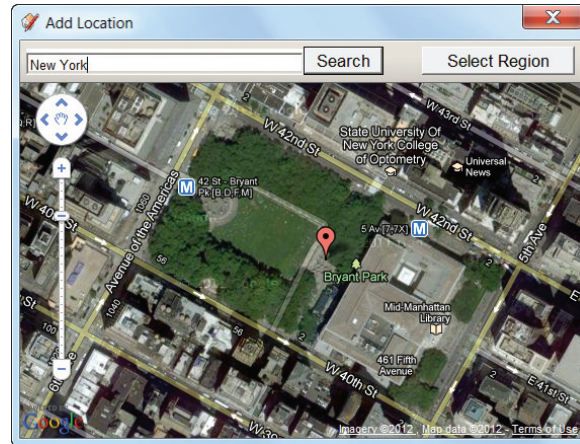

Figure 3.21: Geo-locating a model using the Add Location tool
- **Terrain models** (at varying detail levels) for the entire globe. A terrain is automatically imported when you geo-locate your model using the tool shown in **Figure 3.21**. Use the Toggle Terrain button to show it.
Whenever you work on a project that is physically located anywhere on earth, you might benefit from SketchUp's abilities to give your model a global location, too. As you saw in **Figure 3.21**, assigning a location to a model is very easy with SketchUp's Add Location tool.